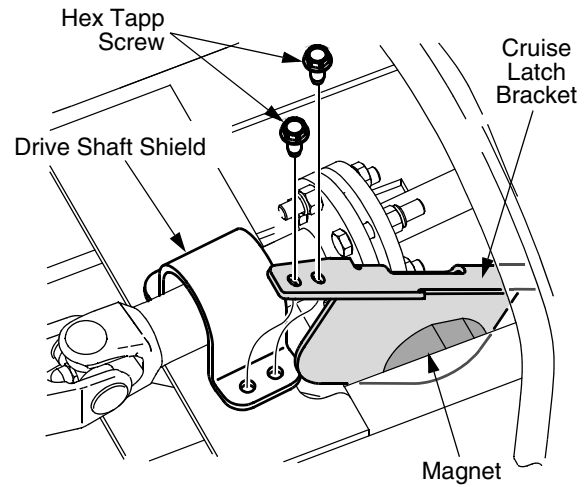

Figure 8
- Remove the two hex tapp screws securing the right side of the tractor drive shaft shield to the frame. Refer to Figure 8.
- Insert the cruise latch bracket (Ref. 3) down through the opening in the fender/running board so that its large plate area is against the left side of the magnet. See Figure 8.
- Pivot the rear of the cruise latch bracket downward so that the bracket mounting holes align with the holes of the drive shaft shield. Refer to Figure 8.
- While holding the cruise latch bracket tightly against the magnet, secure the bracket with the two hex tapp screws removed earlier. Refer to Figure 8.